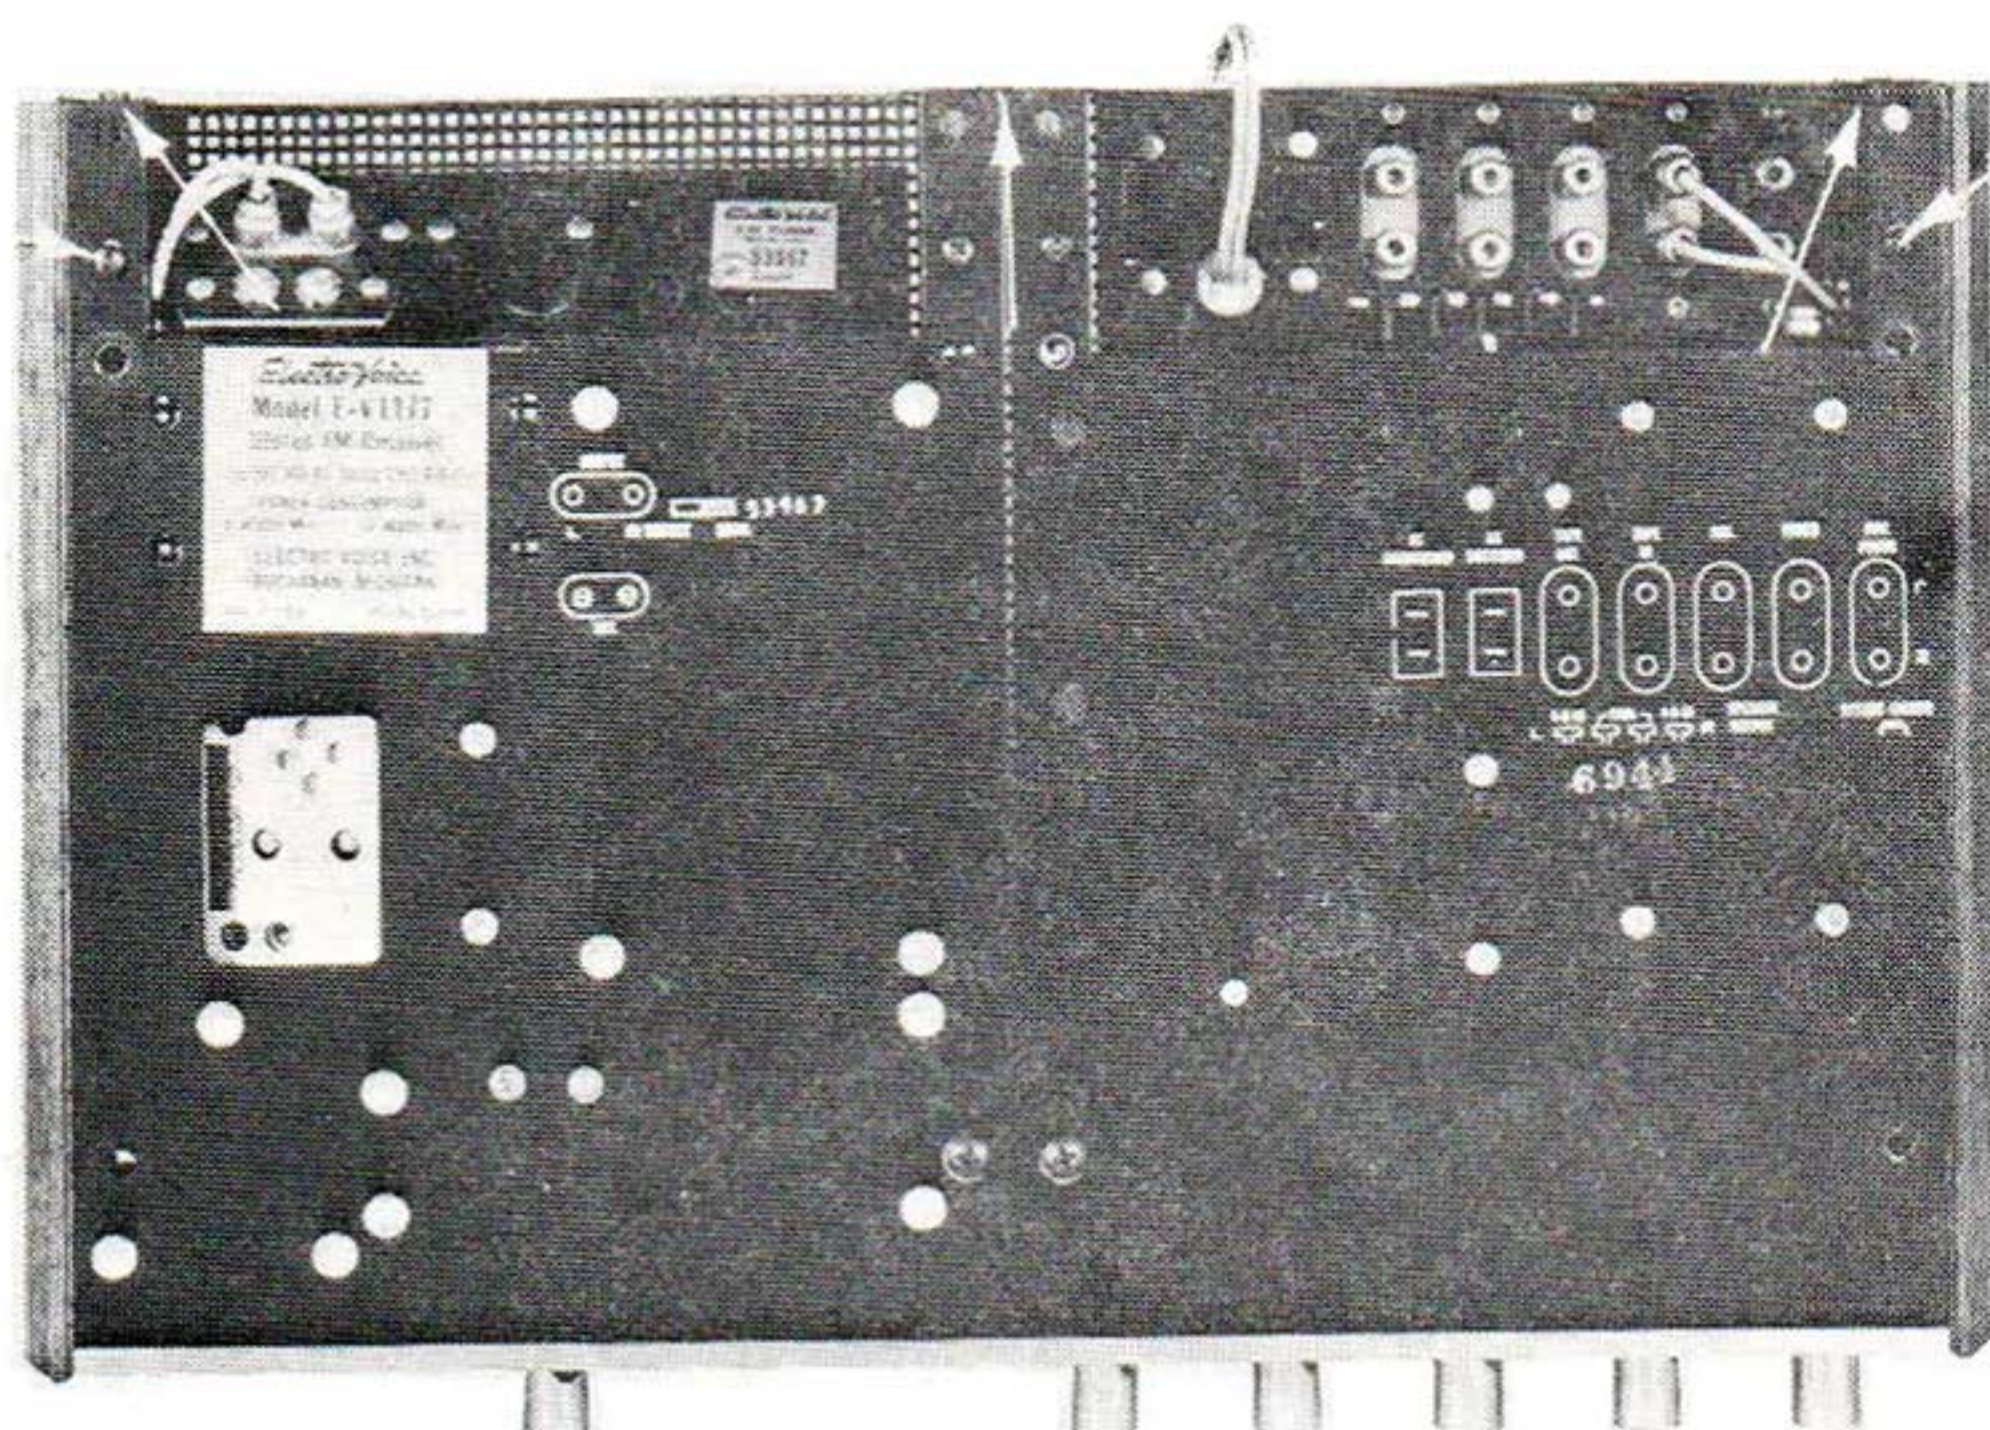

Figure 3
1. Remove phillips head screws in rear of cabinet. (See figure 3 below)
1. Remove phillips screw from each panel. (See figure 3 above)